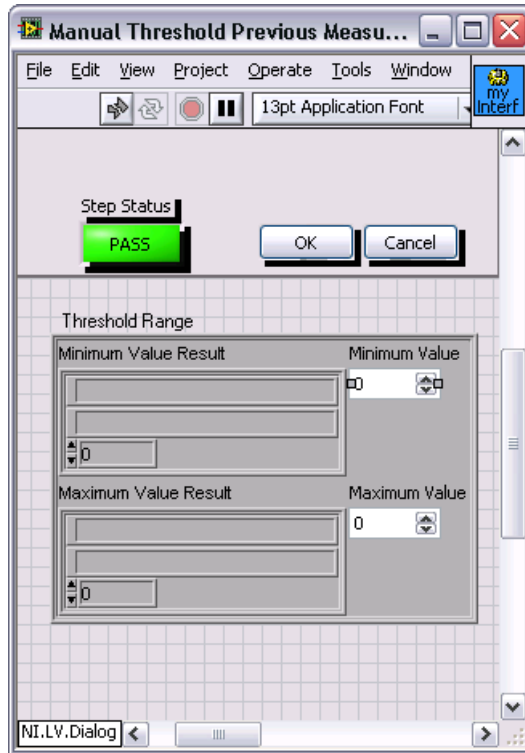

Figure 5-2. Moving the Threshold Range Cluster
3. Move the **Threshold Range** cluster off of the tab control, as illustrated in Figure 5-2: